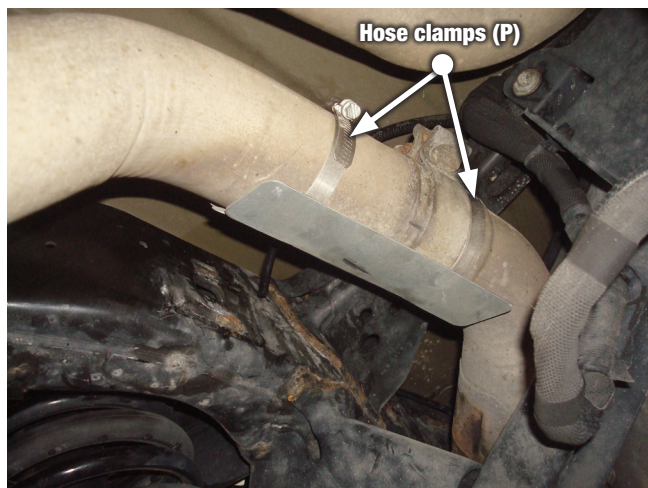
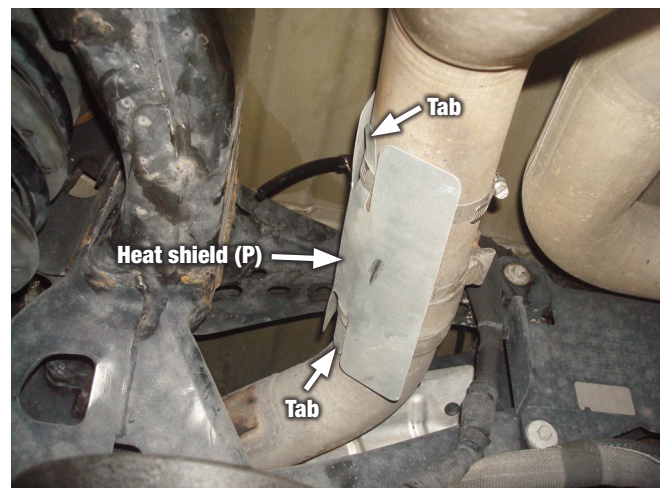

Fig. 8
Fig. 9
1. Place hose clamps (P) around the exhaust pipe on the passenger side, in the locations noted in (Fig. 8). Then, bend the heat shield (P) in a circular pattern and slip the tabs into the hose clamps and tighten (Fig. 9).
Parts labeled (P) in step 1 (and Figures 8 & 9) are included hardware in the heat shield kit.